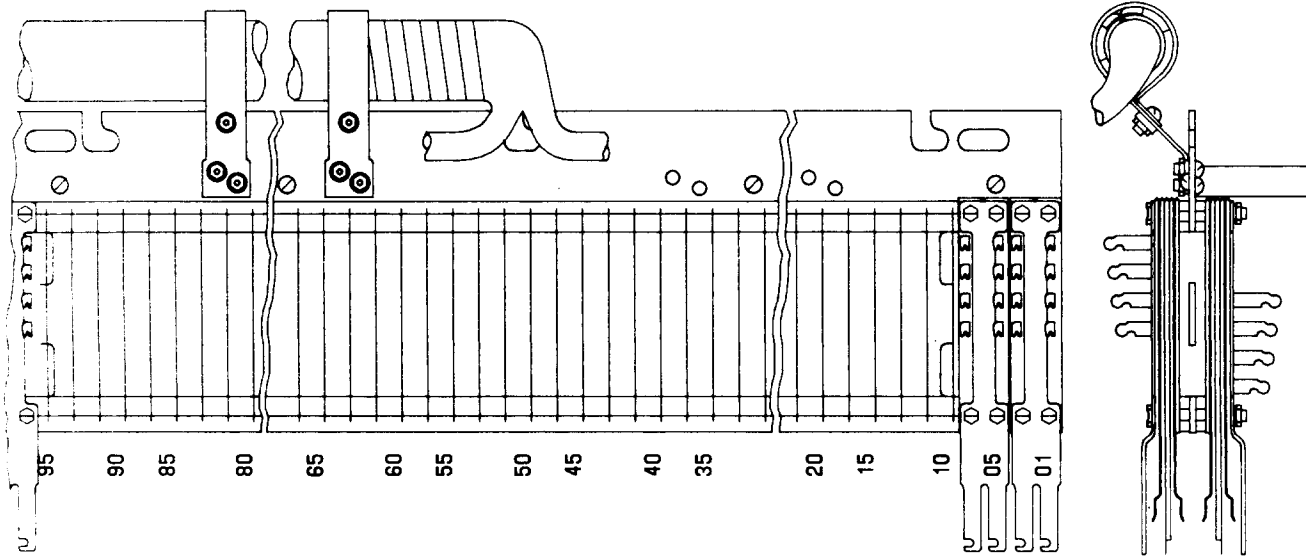

Fig. 19—301A-100 or A2-100 Connector
2.12 **301A-100 and A2-100:** The 301A-100 and A2-100 connectors (Fig. 19) consist of a 444C jack equipped with a universally mounted 24-gauge, color coded, plastic insulated stub cable with an aluminum shield and a polyvinyl chloride (PVC) sheath; and a fanning strip. The stub cable is equipped with a gas plug. These connectors provide ready means of opening lines and trunks for testing and other purposes. These connectors are used in central offices located in areas where incoming circuits are in underground cables and do not require heat coil or carbon block protection. The 301A2-100 has the stub cable and clamps reversed for top mounting.